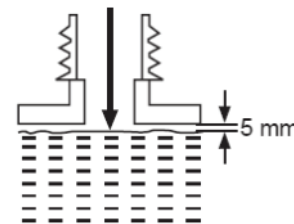

Fig. 14
3. Fill suitable lubricant into the tank using an oil funnel fitted with a filter to avoid debris entering the tank. Do not overfill and leave approximately 5 mm of space between the top of the oil and the inside edge of the tank to allow for expansion (Fig. 14).